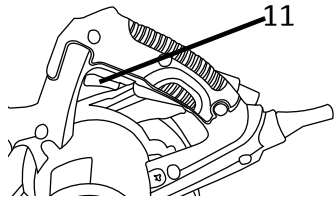

Fig.5
1. To turn the saw ON, squeeze the ON/OFF trigger switch (11) (Fig. 5).